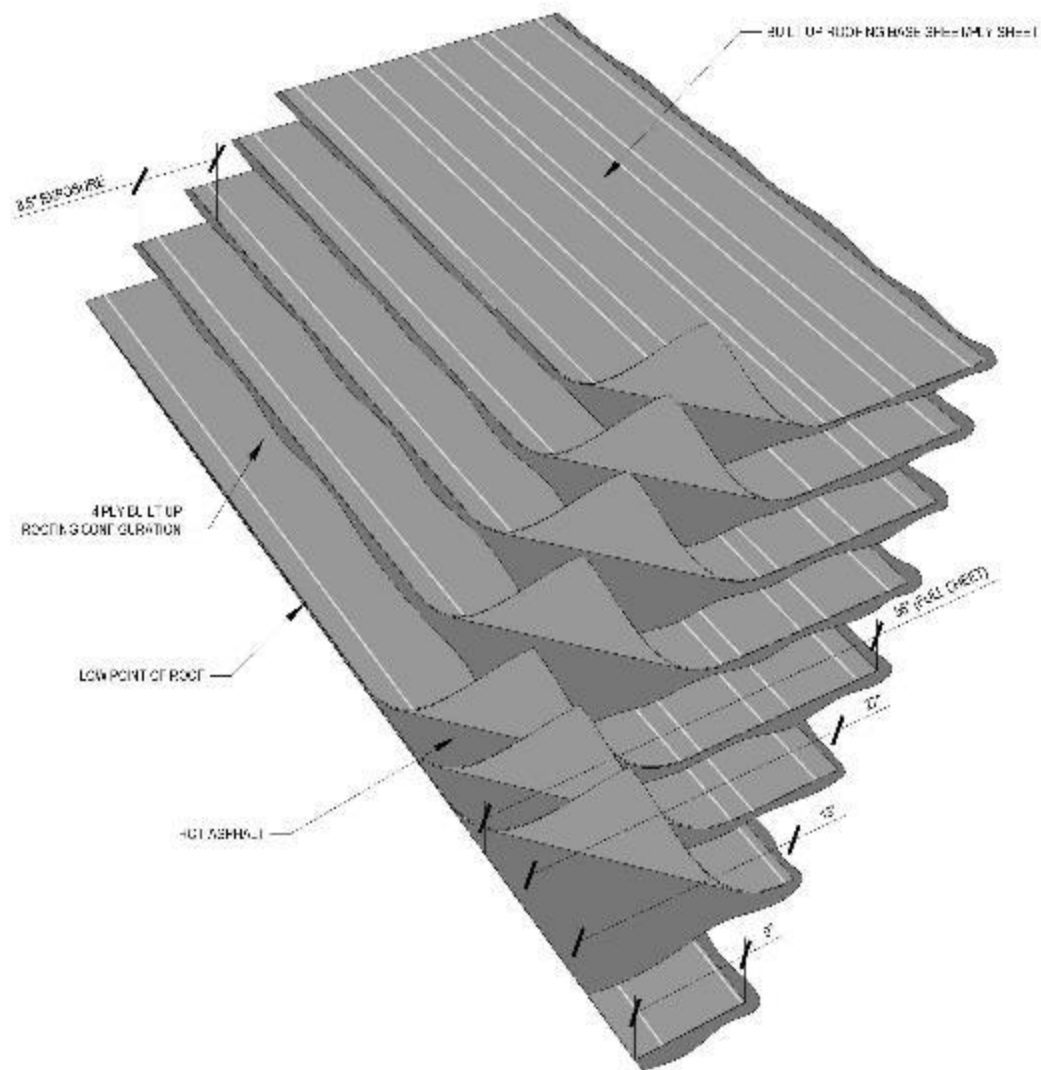

Figure 2.2c Four (4) Ply Built Up Vapor Retarder Configuration
- **FOUR (4) PLY BUILT-UP VAPOR RETARDER APPLICATION (Refer to Figure 2.2c):**